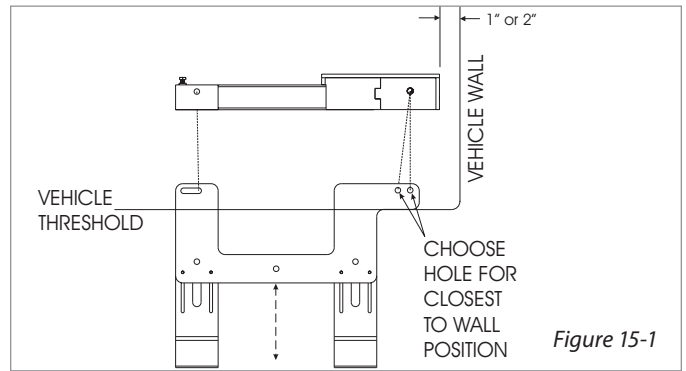
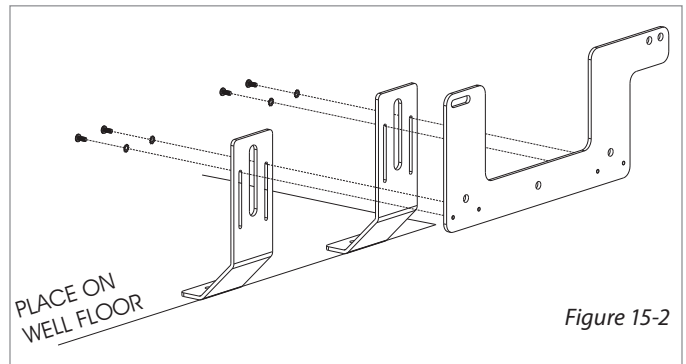

Figure 15-1
Figure 15-2
1. **Place vertical joiner on back wall** of seating well corner. [Figure 15-1] Use base as template for position.
2. **Establish height** by having mounting holes show over threshold. [Figure 15-1] Attach joiners, using small screws provided, to lock height. [Figure 15-2]